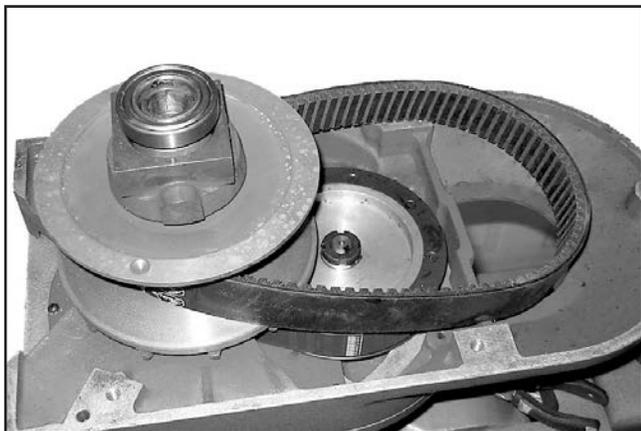

Figure 82. Variable speed belt.
16. Place a new variable speed belt around the pulley, as shown in **Figure 82**.